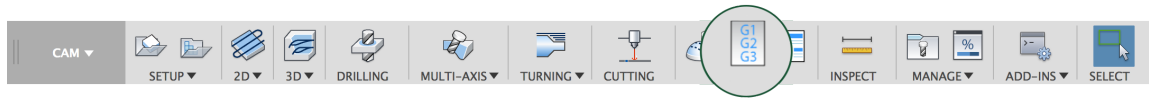

FIGURE 2.1: POST-PROCESS BUTTON IN THE RIBBON.
- Click **Post-Process** in the Ribbon, Figure 2.1. In the popup window, change the “Source” to **My Cloud Posts**.